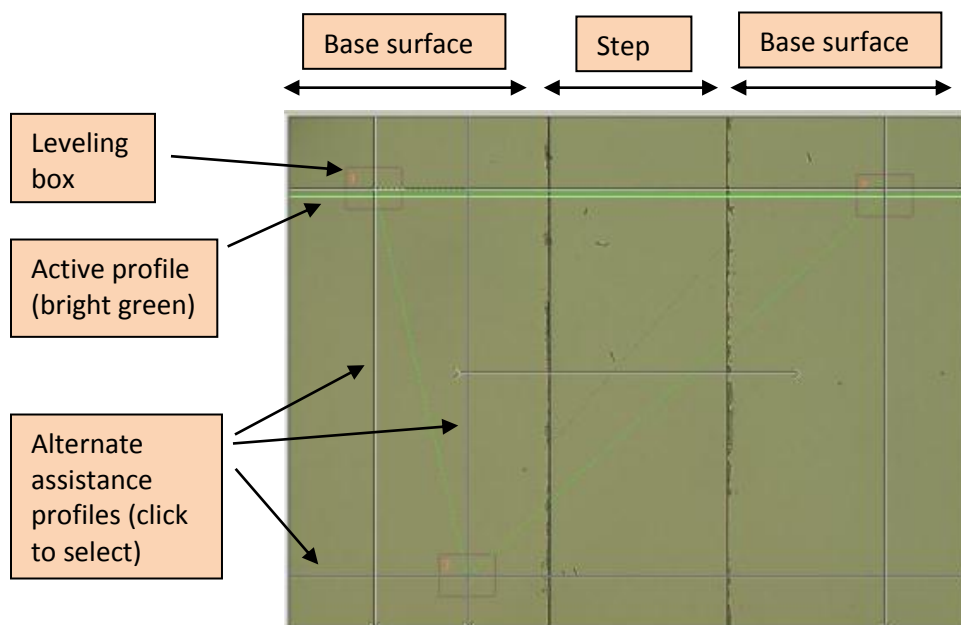

Fig. 69. Leveling boxes for setting reference surface
2. Select *Add Reference Surface*. Three boxes appear on the *2D Composite View* image, with lines connecting their center points. The triangle formed by these lines defines the reference surface. Fig. 69 shows the leveling boxes for a surface with a known step feature running down the center of the image.
6. Observe the line profile pane for assistance. Vertical and horizontal lines are drawn through the center points of the boxes in the *2D Composite View* pane, six lines in all. One line is the active line and is colored green; the profile of this line appears in the *2D Line Profile* pane. The active profile changes as you click on different lines. These profiles help you to decide where to move the leveling boxes. In Fig. 69, the boxes are all positioned on the base surface and not on the step feature.